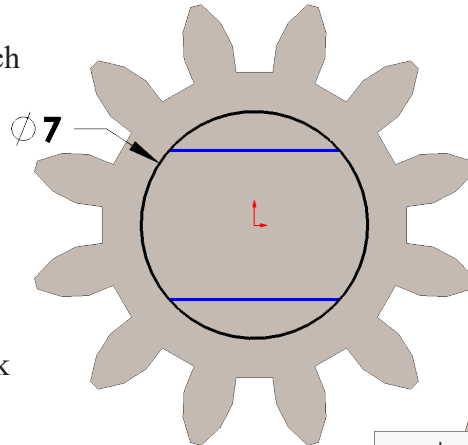

Fig. 7
Step 5. Sketch **two horizontal lines across circle**, **Fig. 7**. Double click to terminate chain.